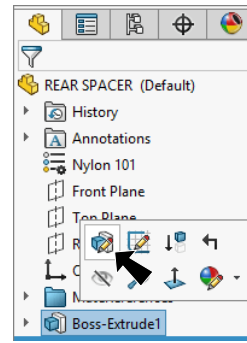

Fig. 10
Step 1. Click **Boss-Extrude1** in the Feature Manager and click **Edit Feature**  on the context toolbar, **Fig. 10**.